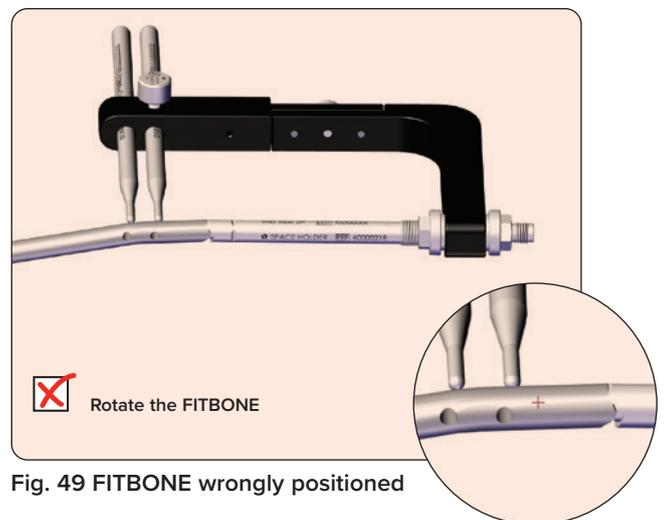

Fig. 49 FITBONE wrongly positioned
3) The FITBONE is wrongly placed. (Figure 49)